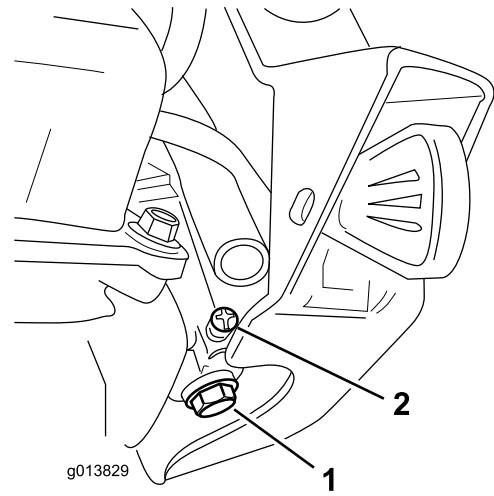

Figure 32
- B. Unscrew, but do not remove, the small screw on the side of the carburetor fuel bowl (Figure 32) until the fuel begins to drain from the carburetor.